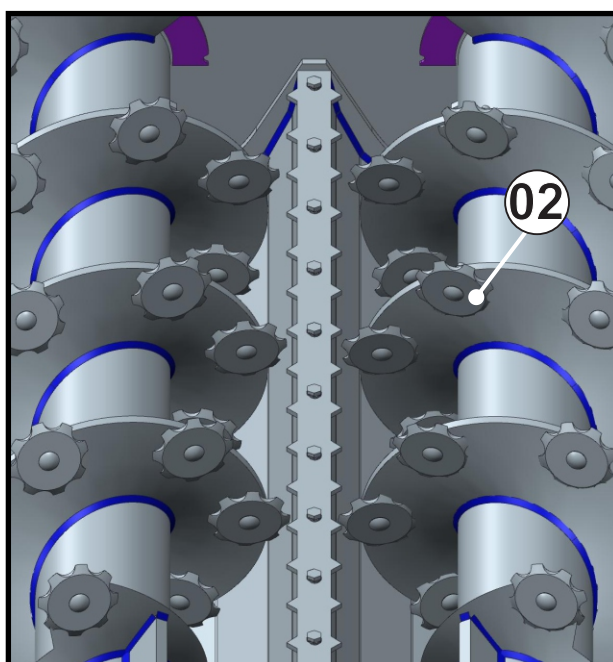

Fig. 21 - Cutting knives
If the blades are worn, sharpen or replace them; the blades are circular (02). (Fig. 21)